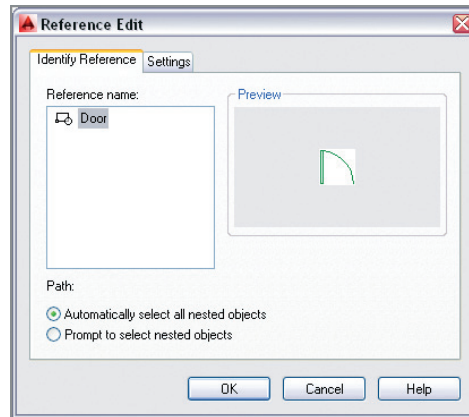

FIGURE 7.15 Editing a block reference in place
3. Select the door, right-click, and choose Edit Block In-Place from the context menu. Click OK in the Reference Edit dialog box that appears (see Figure 7.15).